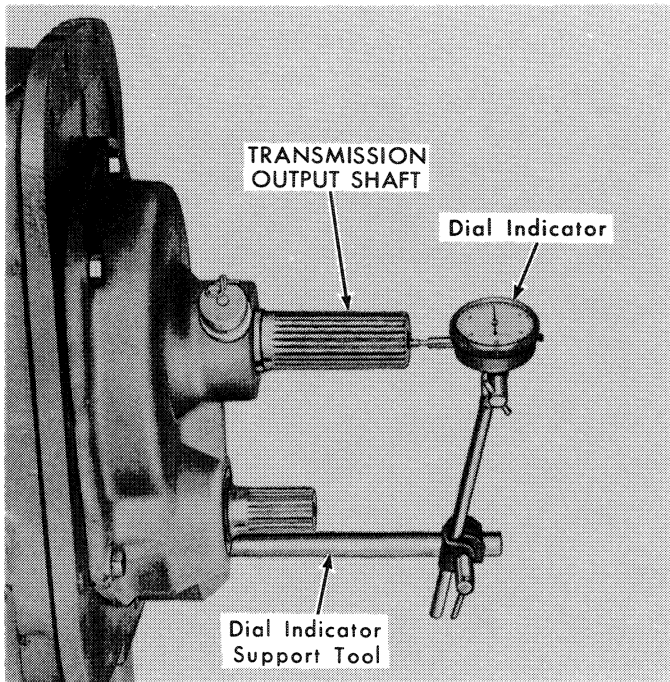

Figure 39
3. Mount the dial indicator support tool on the rear of the transmission case and install the dial indicator on the support so that the contact rests on the end of the transmission output shaft, as shown in Figure 39.